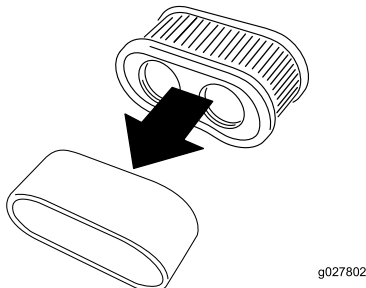

Figure 31
5. Separate the foam and paper elements (Figure 31).